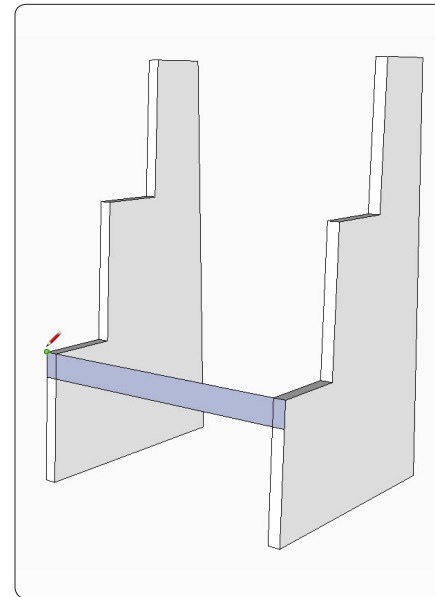

Figure 9. With the side component copied and placed, draw a rectangle over an angled riser to rough-in the front stretcher.
Step 5 Use the Line Tool to draw in a rectangle for the front stretcher (Figure 9). Since it is drawn in place, it will already be at the same angle as the riser on the side. Make the stretcher face a component. Use the Push/Pull Tool to give it the proper thickness.